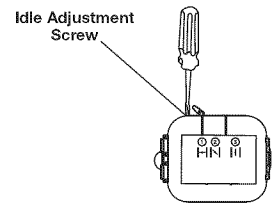

Fig. 21
The idle speed of the engine is adjustable. An idle adjustment screw is between the air filter cover and the engine starter housing (Fig. 21).
- Release the trigger and let the engine idle. If the engine stops, insert a small Phillips screwdriver in between the air filter cover and the engine cover (Fig. 21). Turn the idle speed screw in, clockwise, 1/8 of a turn at a time (as needed) until the engine idles smoothly.